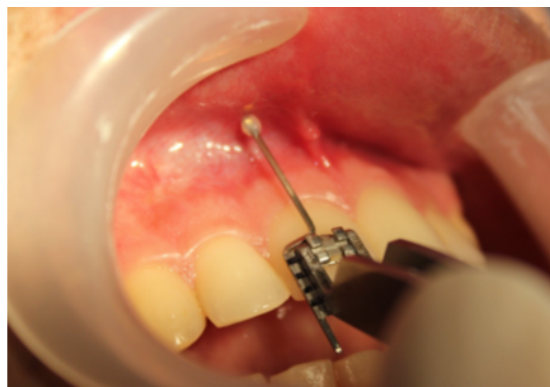

Figure 5: Bracket placement on the tooth
7. The bracket can be placed at desired height just by moving the tweezer up or down and coinciding the marking on the band with the incisal edge. Apart from positioning the bracket at desired height, the vertical SS wire will help in positioning the bracket along the long axis of the tooth. (Figure 5) The free end of the SS wire is covered by adhesive resin to prevent injury to the soft tissue.